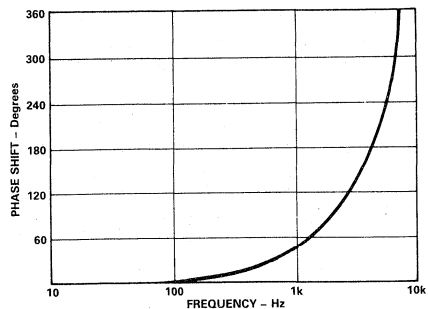

Figure 5. Typical AD295 - Phase Shift vs. Frequency
**Phase Shift vs. Frequency:** The phase shift vs. frequency response, for the AD295 is shown in Figure 5.